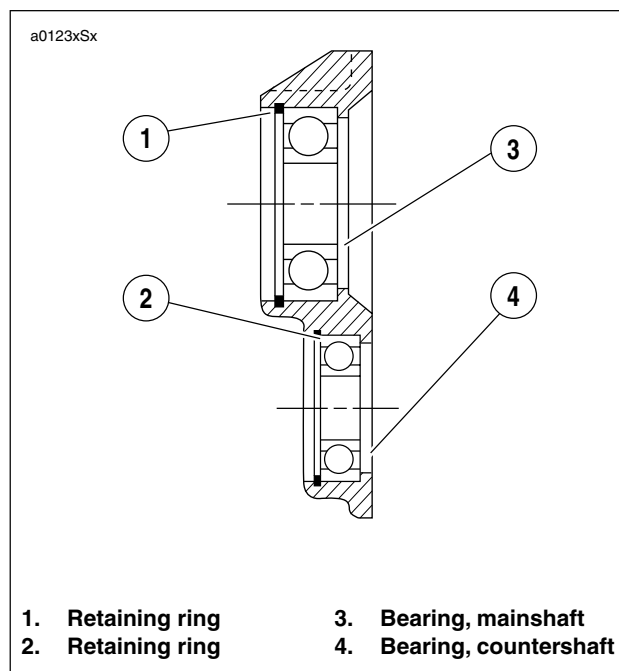

Figure 6-78. Ball Bearing Assembly
5. See Figure 6-78. If bearing replacement is required, remove retaining rings (1, 2) using snap ring pliers (Snap-On Part No. PR-36). Press out bearings (3, 4) from the inside of the crankcase.